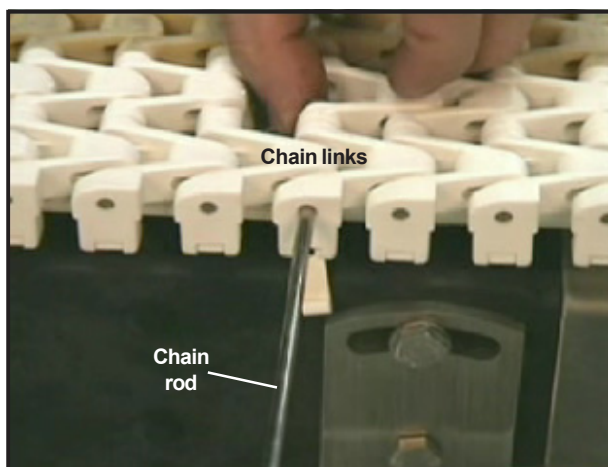

Figure 31: Insert chain rod through links
- If the first roll of chain does not reach the drive end of the conveyor, push it ahead and load another roll of chain. After the second roll of chain has been loaded, join the two sections with a chain rod and install the chain lock tabs (refer to *Figures 31 and 32*, on page 31).
- Feed the chain around the drive by either (A) pulling the end of the chain around, or (B) rotating the drive shaft by hand. **DO NOT** push the chain into the drive sprocket(s) as the compressed chain will not engage the sprocket(s) properly. If done correctly, the chain will feed smoothly.
- Insert the chain rod on one side, and reconnect each link as you push the rod through (*Figure 31*).